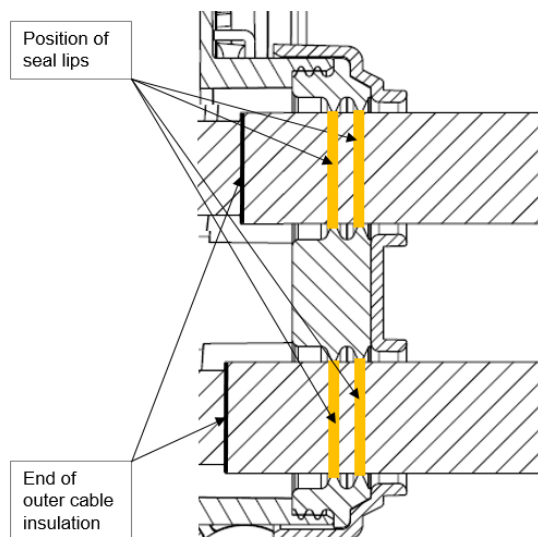

Figure 35b – DC seal lips
Move the FAMILY SEAL DC 2296058-4 into position in the CABLE EXIT 5-2296039-3 and snap the COVER CABLE SEAL DC 5-2296059-4 on the CABLE EXIT. Ensure that all hooks are correctly engaged (audible click), see figure 35b
**ATTENTION:** Ensure that the DC power cables are well positioned in the FAMILY SEAL, that all seal lips are safely placed on the outer isolation of the cables. (Figure 35b)